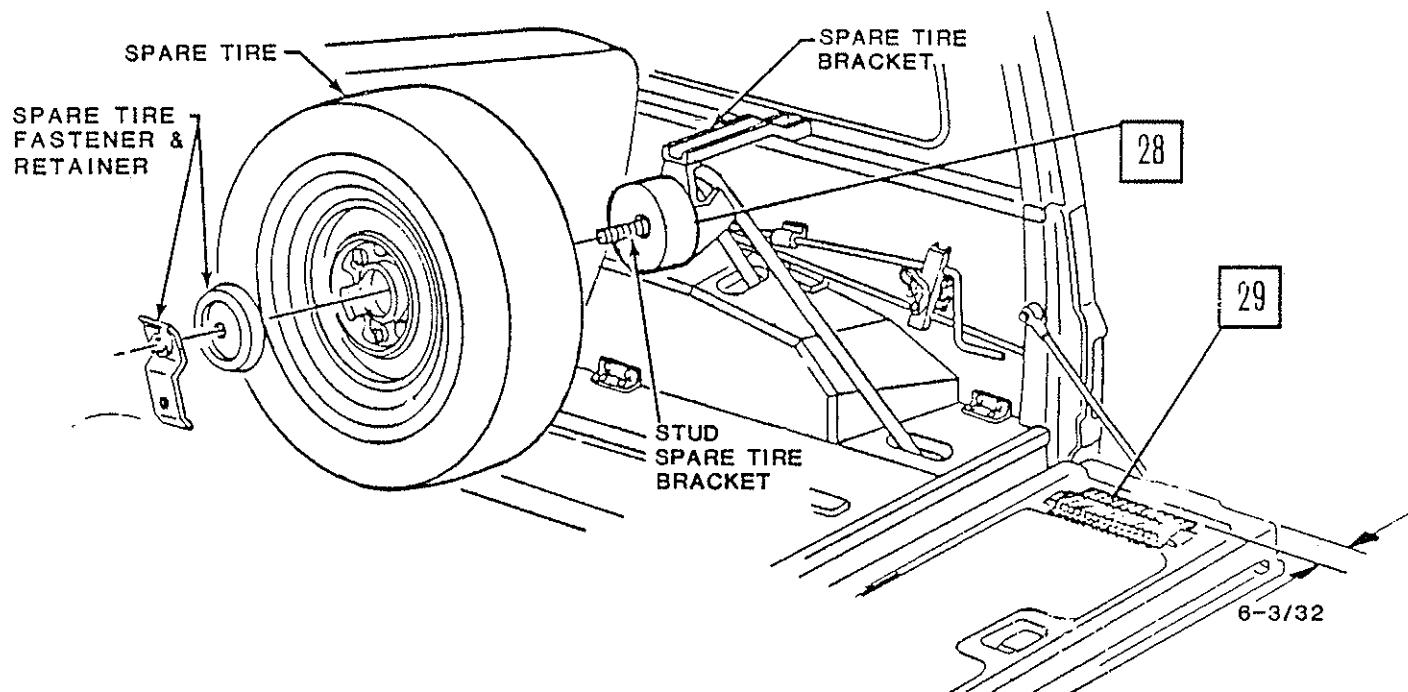

Figure 10.
28. Install tire mounting bracket through insulators and tighten to 30-45 lb.-ft. (40.0-60.0 Nm). Install spare tire mounting spacer and tire (Figure 10.).
29. Apply new jacking instruction label on tailgate (Figure 10.).